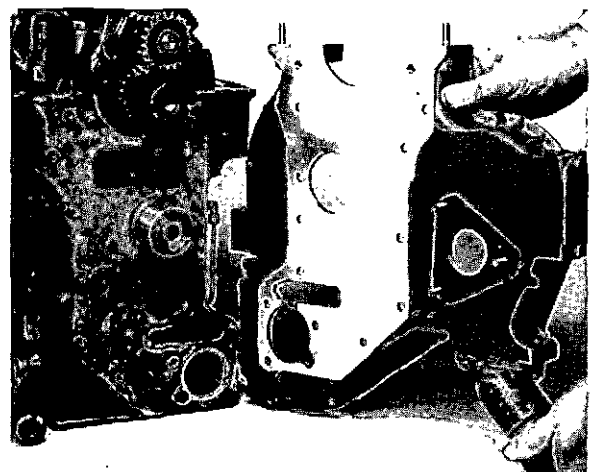

Fig. K10
11. Remove setscrews and washers which fasten timing case to cylinder block and by means of *light force*, remove timing case from block (see fig. K10).